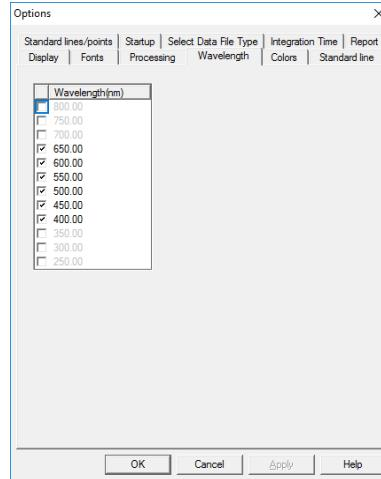

Fig. 5-72
- (1) Select the Options command from the Tools menu and click the Wavelength tab. A dialog box as shown in Fig. 5-72 will appear to indicate the presently specified wavelengths.